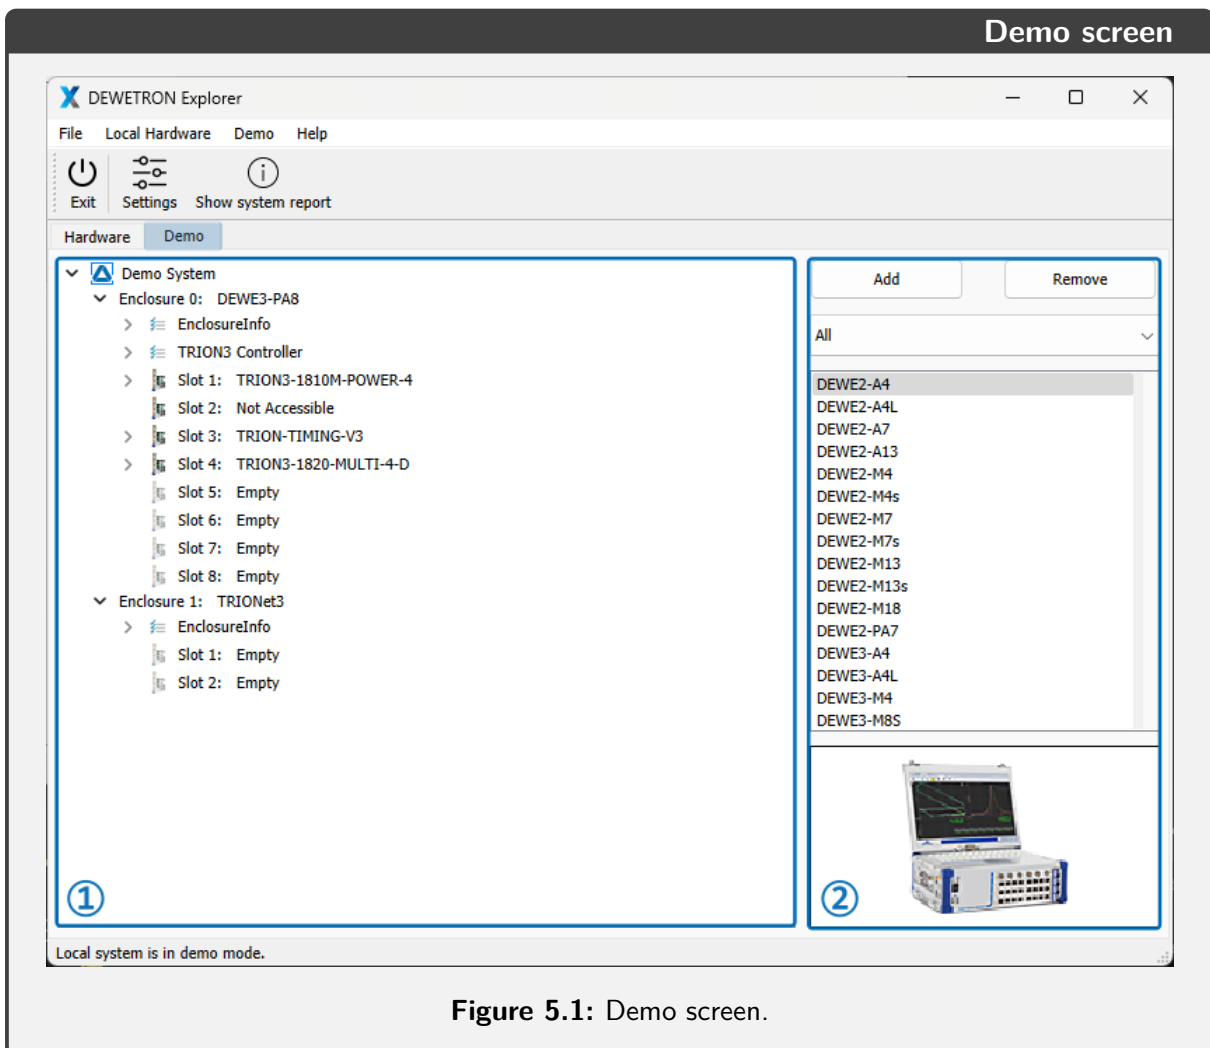

Figure 5.1: Demo screen.
In the Demo section, you can configure a complete simulated DEWETRON system, enabling simulation of any DEWETRON device alongside combinable TRION modules. Figure 5.1 illustrates the demo screen: ① presents the currently simulated devices with selected modules, while ② lists all objects (devices or modules) that can be added.